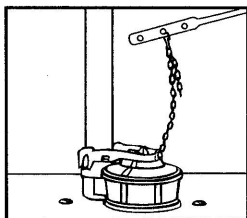

Fig. 2
3. Connect flapper chain to middle hole in lever arm. Chain should have slight slack when flapper is in the closed position (Fig. 2).